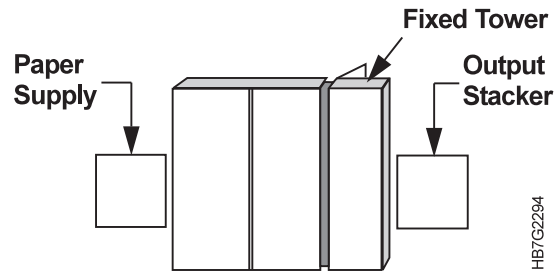

Figure 228. Right Side View of the InfoColor 70
- 2 Open the fixed tower door on the left side of the machine, as shown in Figure 228.